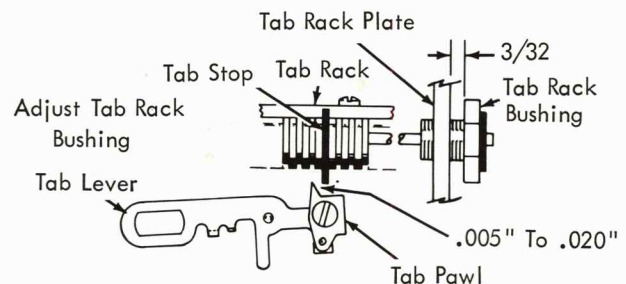

FIGURE 164. Tab Rack Bushing
6. Tab Rack (Fig. 164) - With the tab cam on its high point, adjust the tab rack left to right for  $.005'' - .020''$  clearance between a set tab stop and the side of the tab lever pawl.